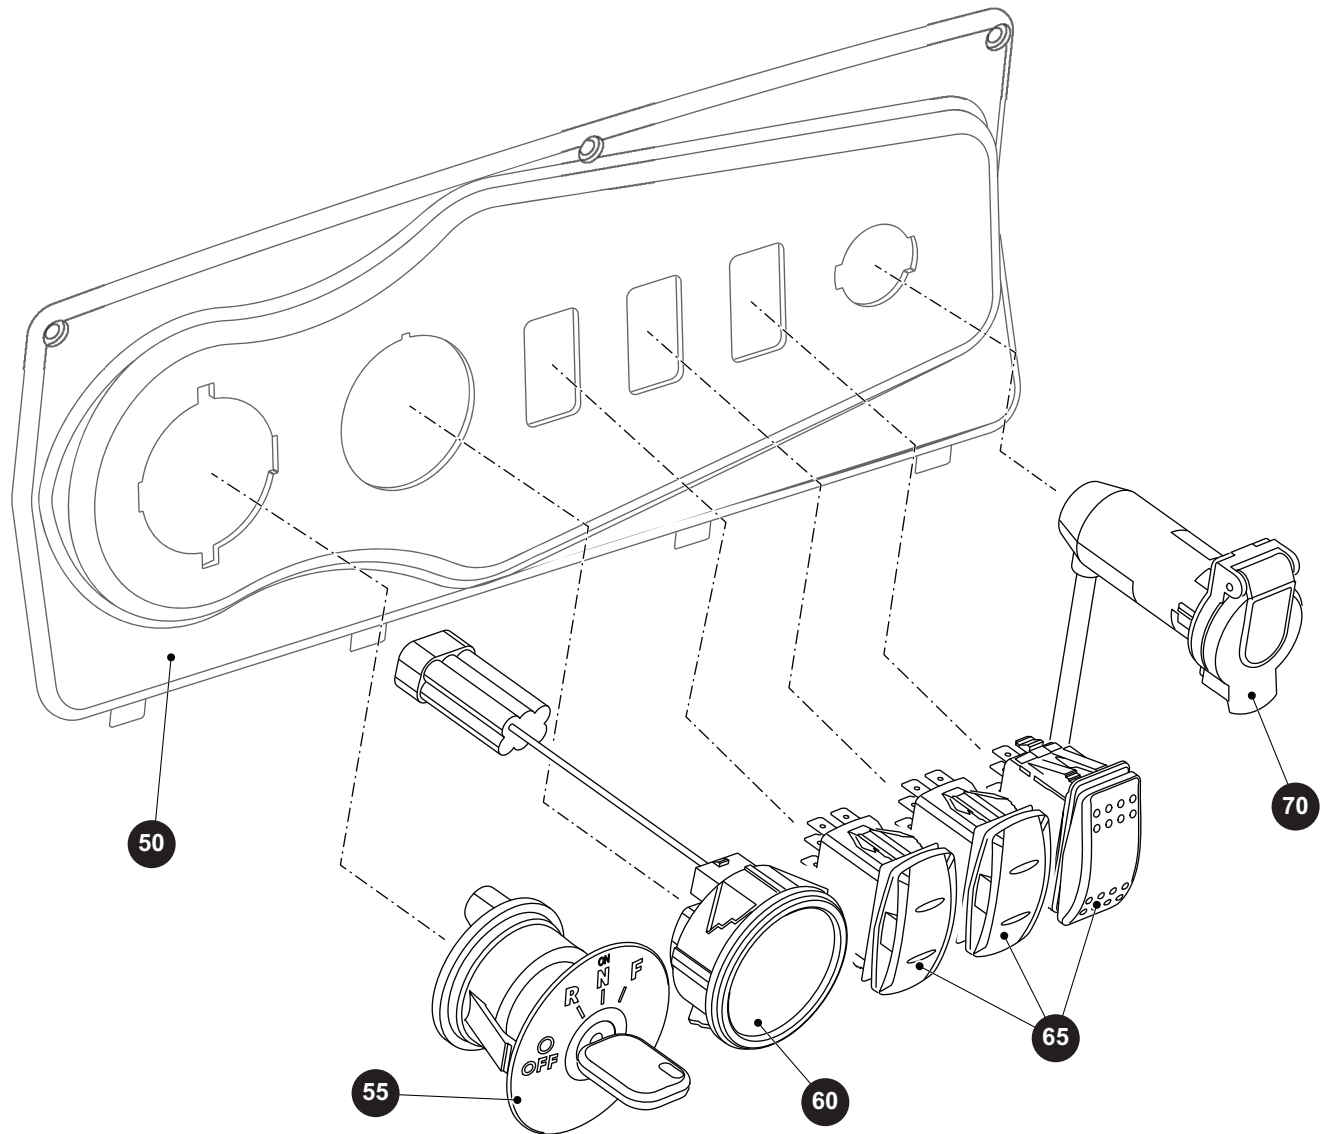

Fig. 18 Control Panel
5. Squeeze the tabs on the back side of the keyswitch (55) and push it through the front of the control panel (50) (Ref Fig. 18).
4. Squeeze the tabs on the back of the hour meter (60) and push it through the front of the control panel (50) (Ref Fig. 18).
4. Squeeze the tabs on the top and bottom of the back-side of the rocker switch (65) and push it through the front of the gauge panel (50) (Ref Fig. 18).
4. Squeeze the tabs on the top and bottom of the back-side of the USB port (70) and push it through the front of the gauge panel (50) (Ref Fig. 18).